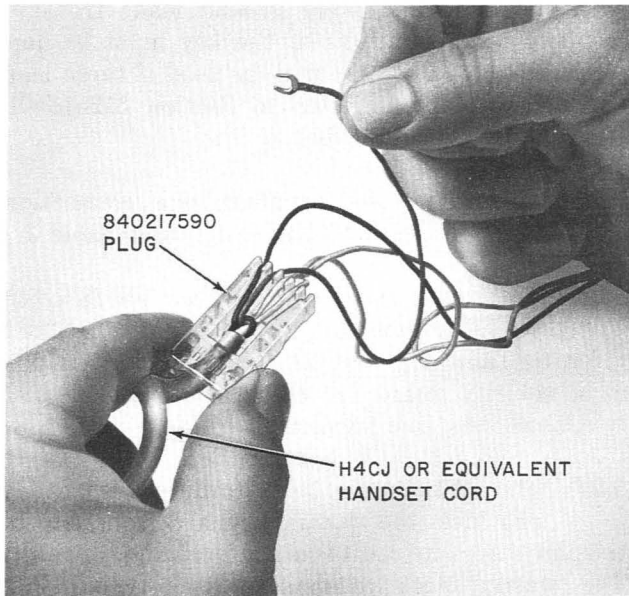

Fig. 3—Installing Spade-Tipped Handset Cord Leads
3.08 *Installing Spade-Tipped Handset Cords in Early Production Sets Equipped with G12A Handset:* To install spade-tipped handset cord (H4CJ or equivalent) remove J Hook Stayband from the cord. Cut back and remove cord sheath to stayband marks. Thread spade-tipped conductors through plug (Fig. 3) (spade tips must be bent to clear cord entrance). Pull cord until about 1/4-inch of cord sheath is in the central cavity of the plug. Separate the conductors into two groups and tie an overhand knot, pulling the knot to the cord sheath. Pull the cord from plug until strain relief position is attained by knot